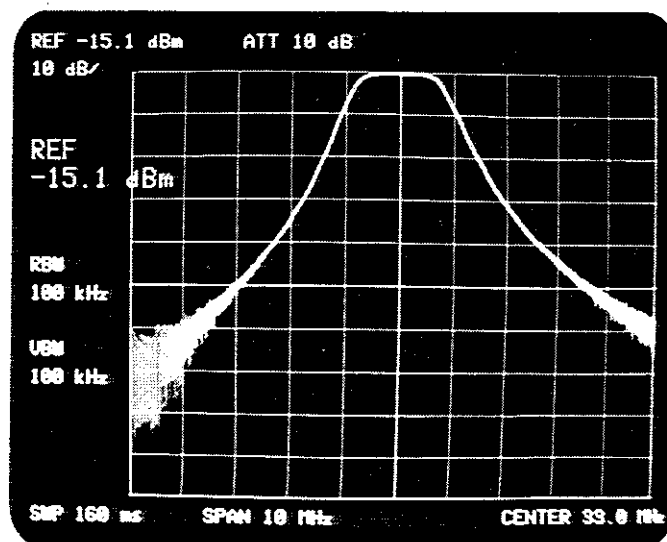

Fig. 7-2 Normal-mode Signal Response
- (1) Connect the TRACKING GENERATOR OUTPUT connector to the input of an amplifier or filter and connect the output of the amplifier or the filter to the INPUT connector of the TR4171.
- (2) Press the MAG key to activate the tracking generator.
- (3) Measure the passband response and select appropriate values for T.G. LEVEL, INPUT ATT., and REF. LEVEL. (See Figure 7-2.)